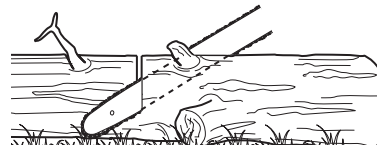

Fig.33
1. Follow the simple directions for easy cutting. When the log is supported along its entire length (Fig. 33), it is cut from the top (overbuck).